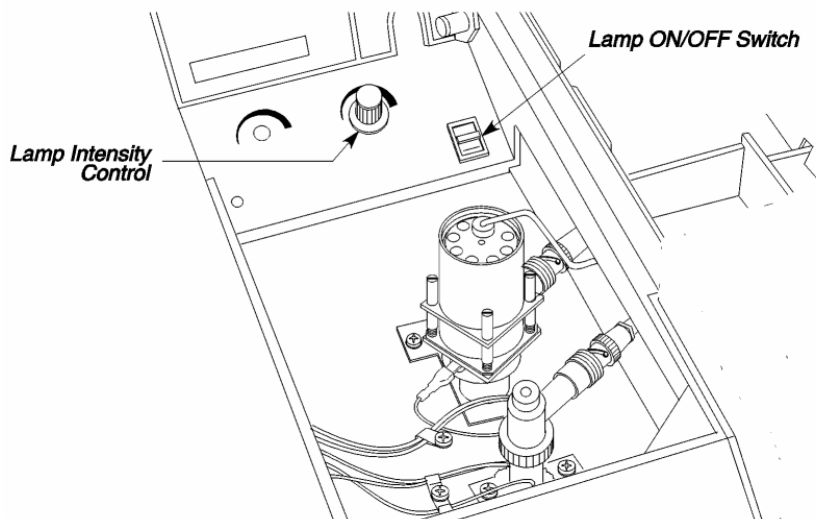

Figure 4-14. PID installed in the Detector 2 position.
1. Lift the detector cover to expose the PID (see Figure 4-14).
3. Locate the lamp intensity control knob (see Figure 4-14) and slowly turn it clockwise (increasing the signal) until the background signal on your integrator or recorder (whichever is configured) suddenly decreases.